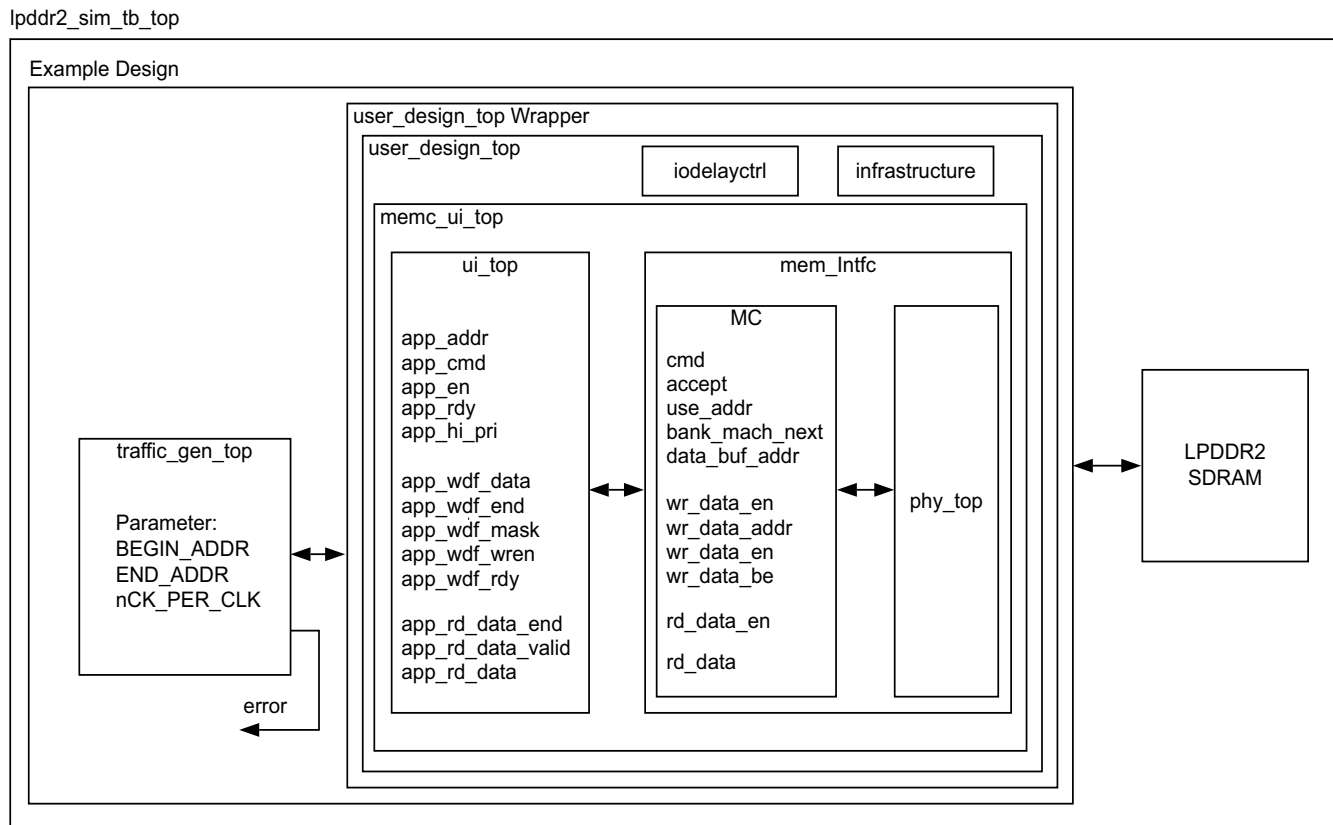

Figure 4-37: Synthesizable Example Design Block Diagram
The MIG tool provides a synthesizable test bench to generate various traffic data patterns to the Memory Controller (MC). This test bench consists of a memc\_ui\_top wrapper, a traffic\_generator that generates traffic patterns through the user interface to a ui\_top core, and an infrastructure core that provides clock resources to the memc\_ui\_top core. A block diagram of the example design test bench is shown in Figure 4-37.